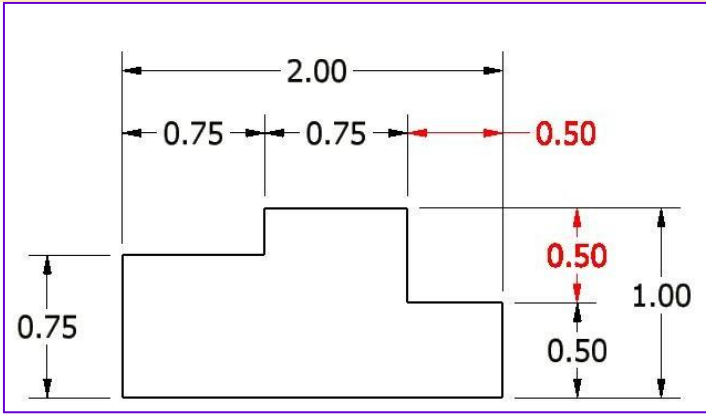

Fig 6
2. Each dimension should be given only once. No dimension should be redundant / superfluous (repeated) (fig 6). Not even on another